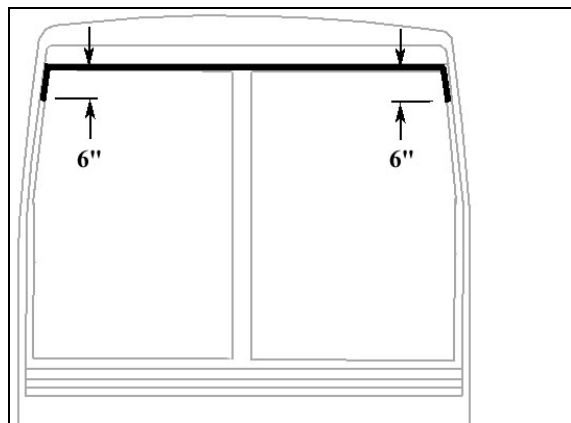

FIGURE 59: APPLICATION OF SIKA 221 BLACK
- Apply Sika 221 black (Figure 59) between fiberglass and rubber extrusion.